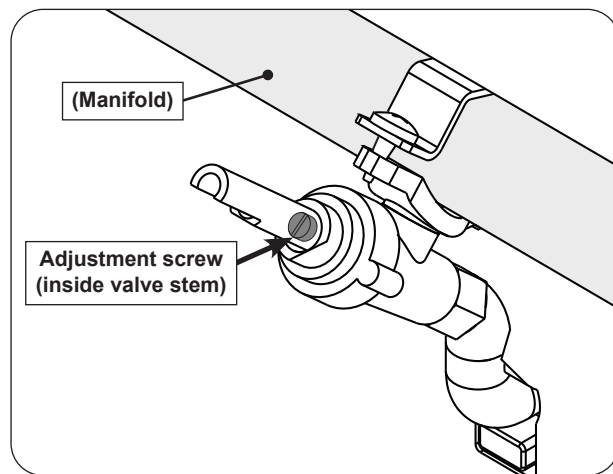

Fig. 45-1 Valve adjustment screw location
2. Remove the griddle top and heat distribution grids. See the GRIDDLE TOP REMOVAL and HEAT DISTRIBUTION GRID(S) REMOVAL section for details.
4. Locate the FLATHEAD adjustment screw found inside the valve stem (see Fig. 45-1).